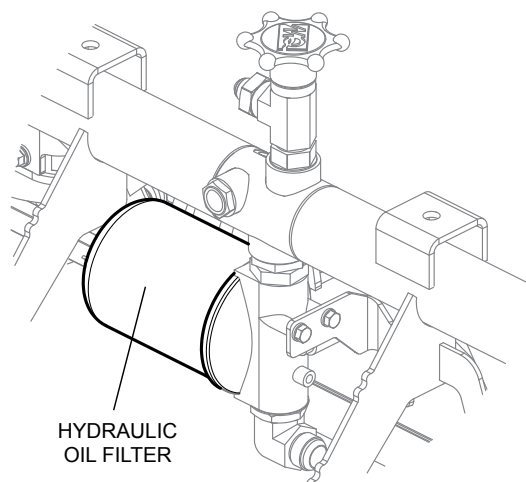

Figure 28. Hydraulic Oil Filter
1. Change the hydraulic oil and filter (Figure 28) after the first 100 hours of use then change every 250 hours. Use 10 micron absolute synthetic media filter.